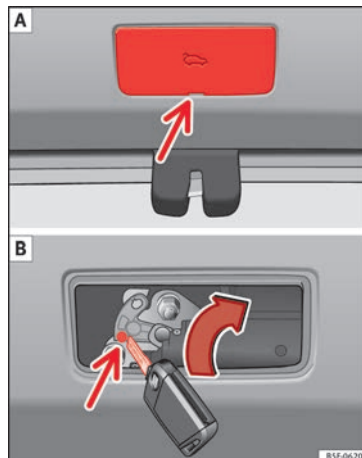

Fig. 7 Luggage compartment: access to manual release.
- Remove the cover by inserting a screwdriver in groove »» Fig. 7 A.
- Insert the key into the opening and turn it in the direction of the arrow until the latch »» Fig. 7 B has been released.